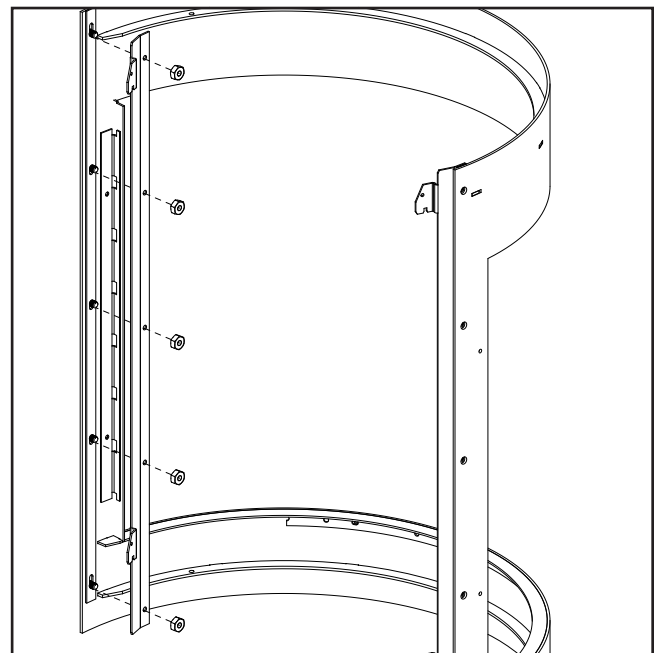

Figure 37: Door Frame Hook Removal
The door frame hooks are each attached to five (5) studs on the main door frame. Remove the nuts retaining the hooks and remove from the door frame (refer to Figure 37).